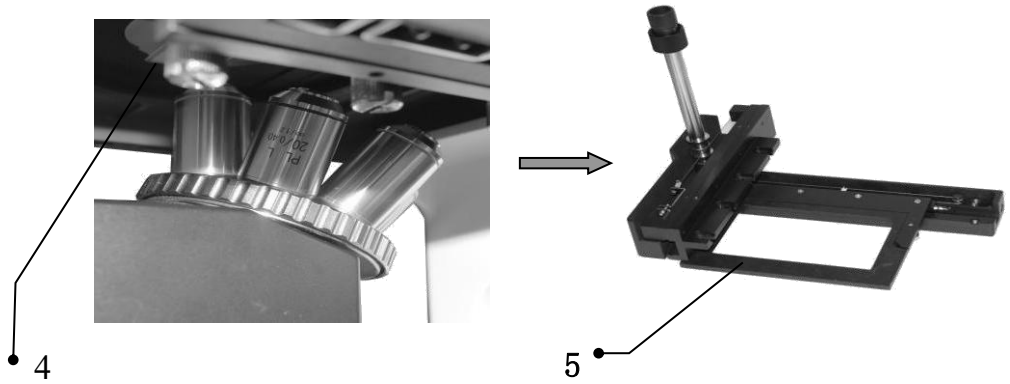

Figure 10
(2) Unload the moving board 1 when observe culture tissue in large dish. When unload, please put condenser system 4 out of the light path, take out the dish board and lower the objective. Unscrew the screw 5, place upside down on working platform, it can not put sidelong, or it might be damaged . See figure 10.